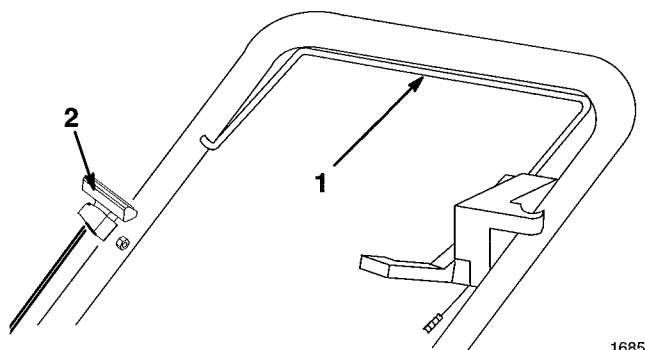

Figure 8
4. Squeeze control bar against handle (Fig. 8).
5. Pull starter handle (Fig. 8) lightly until resistance is felt, then pull sharply. Let rope return to handle slowly.
2. Pull starter handle (Fig. 8) lightly until resistance is felt, then pull sharply. Let rope return to handle slowly.